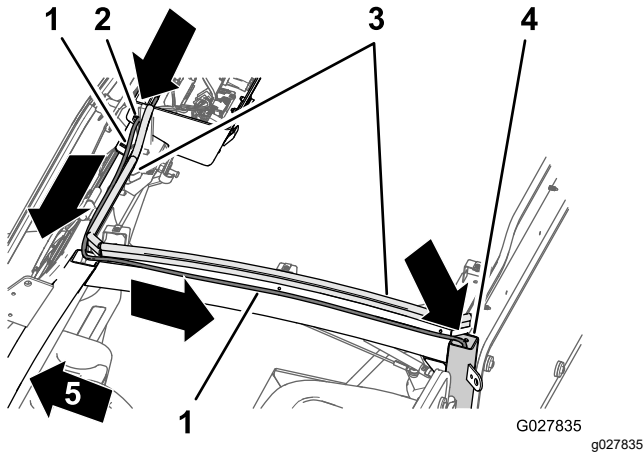

Figure 26
- At the overhead console, route the wire harness for the washer pump (Figure 26) to the left and along side of the hose installed in Routing the Hose (page 9).
- Route the wire harness rearward along the left frame channel of the cab (Figure 26).